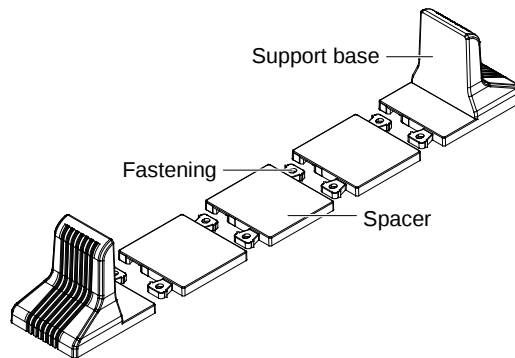

Figure 2-2 Support bases with spacers (front view)
2. If battery modules are connected to the UPS, take out the spacers delivered with the battery module, and then assemble the spacers and the support bases through fastenings, as shown in Figure 2-2.